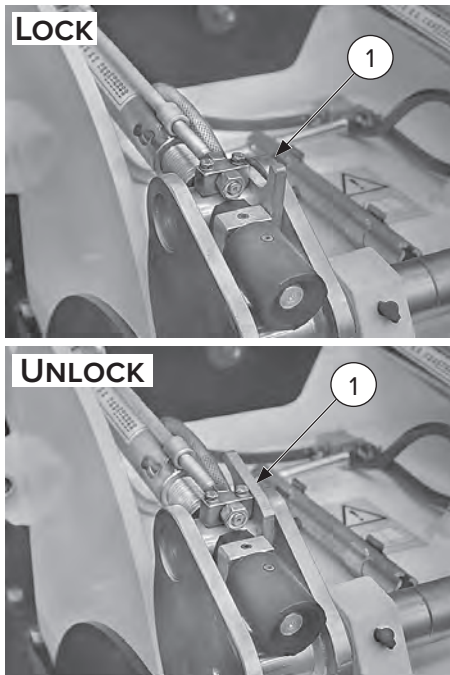

Figure 8
2. Lift the depth adjustment lock [Figure 8, Item 1].